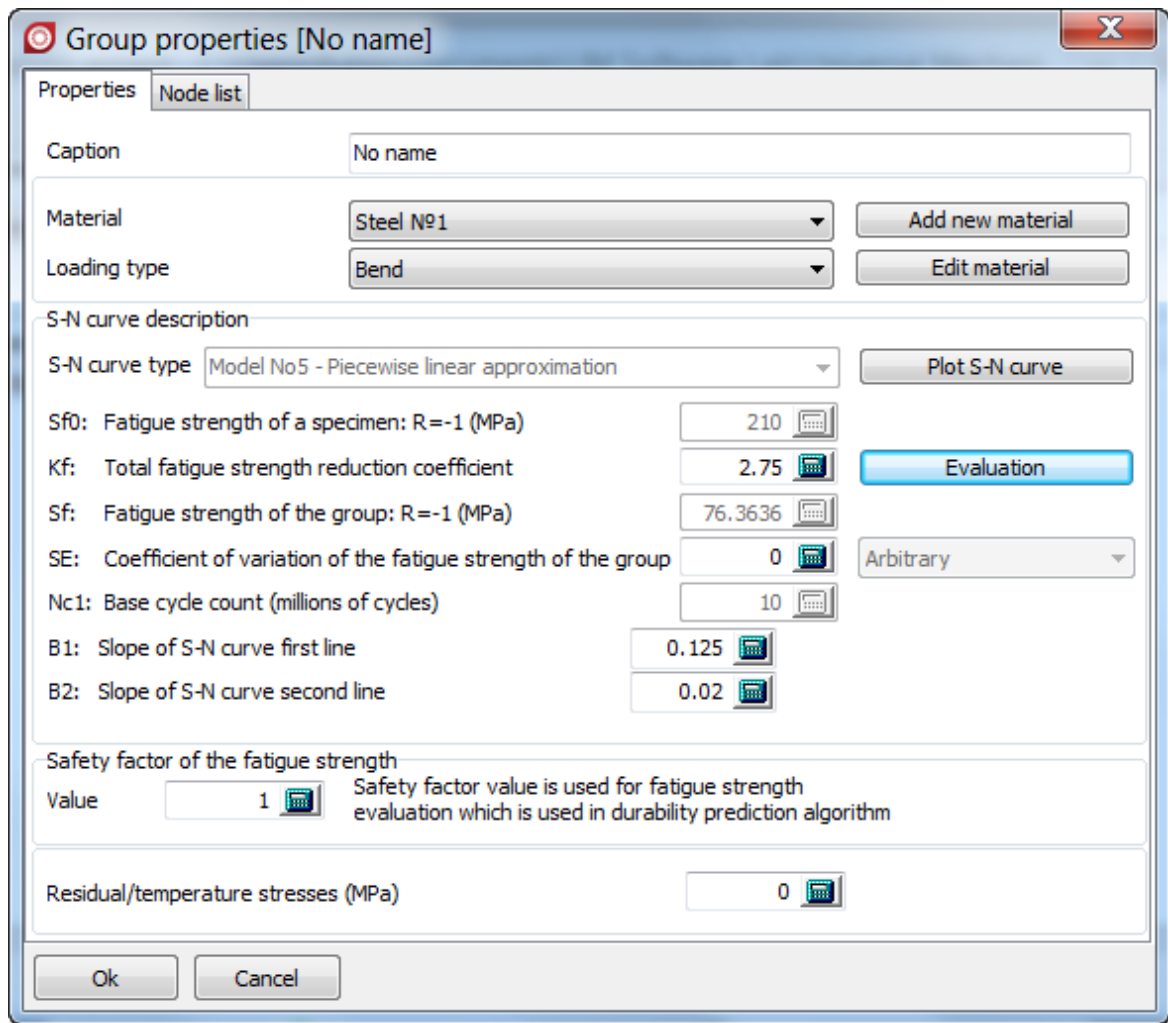
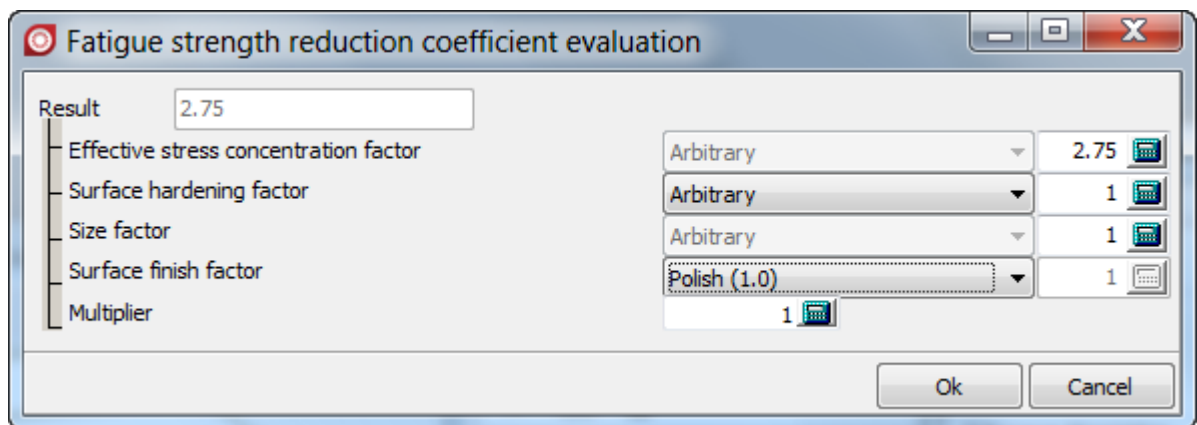

Figure 2.34. Initialization of group properties
Figure 2.35. Fatigue strength reduction factor
15. Add one more control area and call it **Connections**, see Figure 2.34.
16. Define control areas properties as shown in Figure 2.34, Figure 2.35.